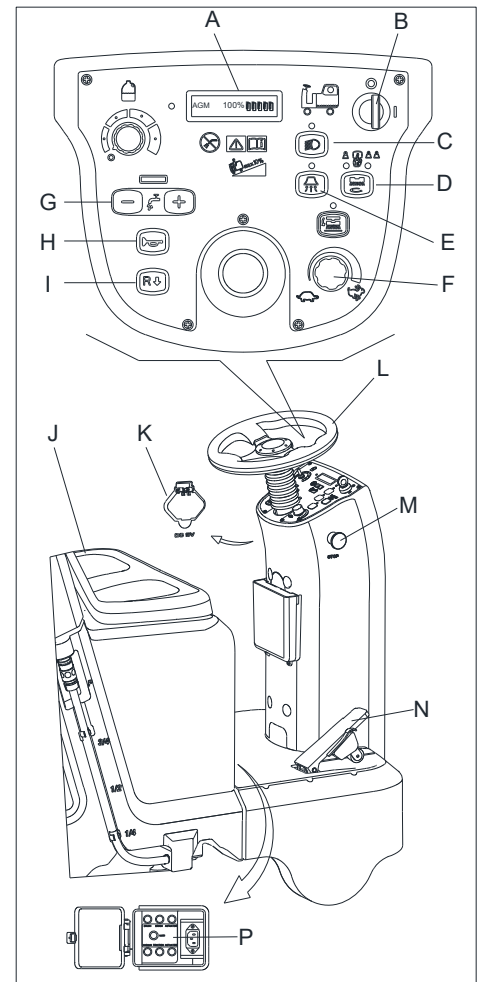

Figure 12
- Sit on the seat (J, Figure 12), insert the key switch (B) and turn it to “I”. If the LCD (A, Figure 12) is 100%, the batteries are fully charged for use. If the LCD (A, Figure 12) is 10%, batteries must be charged before operation. [Refer to MAINTENANCE chapters for batteries charging]
- Press One-Start button (D, Figure 12) to start the machine, the squeegee and brushes are released to the floor automatically, vacuum motor begins to work.
4. Depress the accelerate pedal (N Figure 12), operate the machine forward or backward by steering wheel (L Figure 12) together with forward-backward switch (I Figure 12), you can adjust speed by speed adjusting knob (F Figure 12).
5. Adjust solution flow by solution adjusting button (G Figure 12) base on cleaning requirement.
6. You can charge your phone or pad through USB charging port (K Figure 12) when the key switch (A Figure 12) is turned to “ON”.
7. Press the horn button (H Figure 12) to warn people when necessary.
8. If necessary, press the emergency button (M Figure 12) for machine emergency stop.
The brush motor, vacuum motor, drive motor and control circuit are protected by overload protector (P Figure 12). When the overload protector trip, do not reset it immediately without finding out the root cause, and make sure the motor is cooling-off before reset.
9. Loosen the accelerate pedal (N, Figure 12), the machine stops running.
10. Press One-Start button (D, Figure 12) to stop brushes and vacuum motor. The brushes and squeegee are lifted up from the floor automatically. The vacuum system is closed after a few seconds delay.